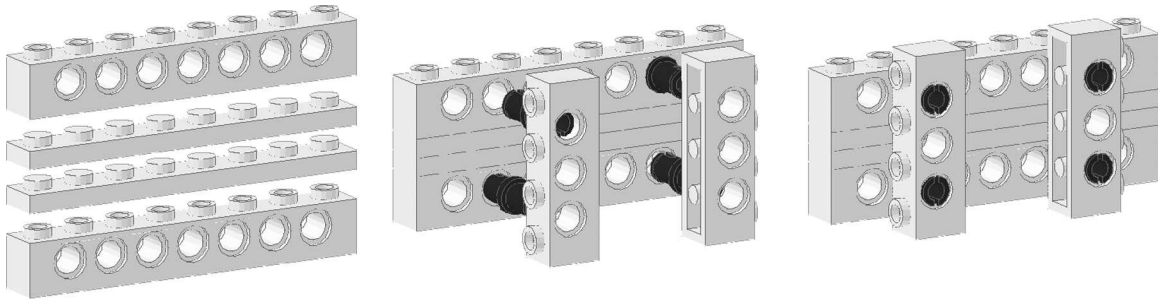
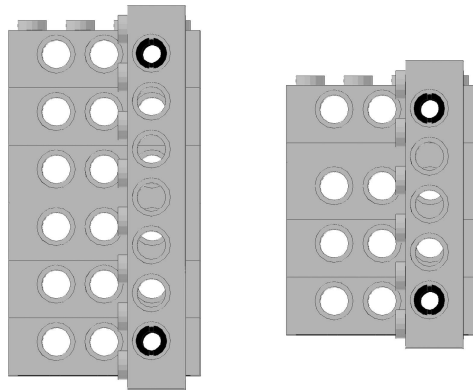

Figure 2: Bracing: 1 beam = 3 flat plates
Figure 3: Other examples of perpendicular bracing
- **Vertical Bracing.** As discussed in lecture, to brace a Technic beam perpendicularly you need to sandwich two flat plates between two Technic beams, as shown in Figure 2. Remember the beam-flat-flat-beam or “3-2-3 rule” makes bracing easier.
There are several different vertical bracing arrangements possible. Figure 3 shows some unique examples. Although these examples work, they waste extra beams, and sometimes it can get hard keeping track of spacing. We highly recommended using the scheme shown in Figure 2 instead.